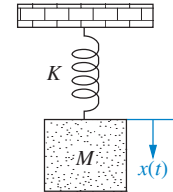

FIGURE P2.16
31. For the unexcited (no external force applied) system of Figure P2.16, do the following: